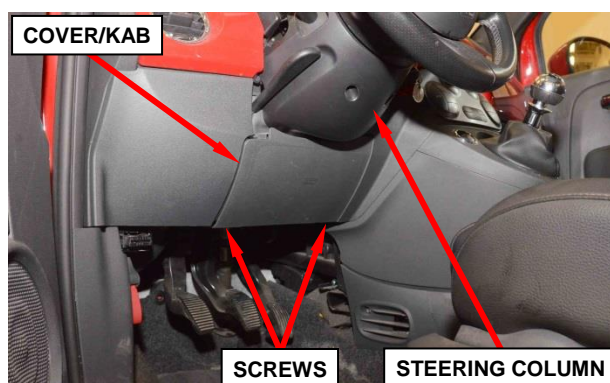

Figure 9 – Cover/KAB Fasteners
- a. From below the instrument panel, remove and save the two screws that secure the steering column opening cover/KAB unit to the instrument panel lower reinforcement (Figure 9).
- c. Carefully position the steering column opening cover/KAB unit into the instrument panel opening (Figure 9).
- d. Install the two screws that secure the column opening cover/KAB unit to the instrument panel lower reinforcement. Tighten the screws to 53 in. lbs. (6 N·m) (Figure 9).